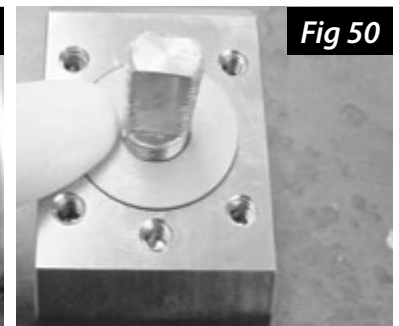

Fig 50
4. While holding the bottom of the stem, place the PEEK stem bearing over the top of the stem. Slide the PEEK stem bearing down until it rests in the groove on top of the body (Fig 50).